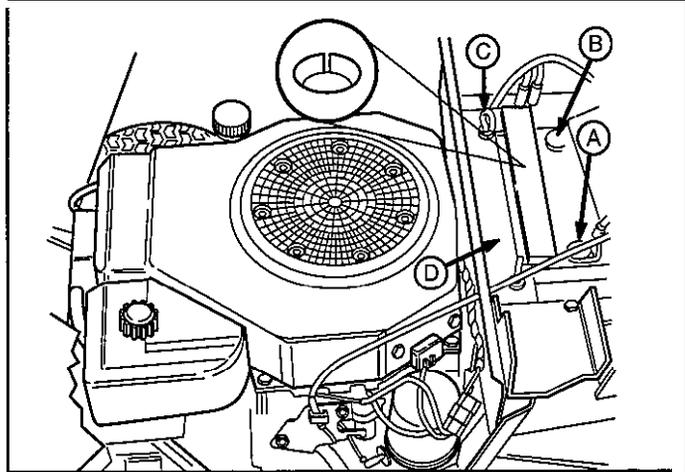

Figure 28. Battery
2. Remove the battery filler cap (See Figure 28). Fluid must be even with the split ring full mark. If not, add distilled water.
1. Disconnect the cables from the battery, negative cable first (B, Figure 28).
2. Remove the battery hold-down rods (C, Figure 28) and battery clamp (D) and battery.
5. Reinstall the battery in the battery compartment, and secure with the battery hold-down rods (C) and battery clamp (D).
6. Reattach the battery cables, positive cable first (see A, Figure 28)